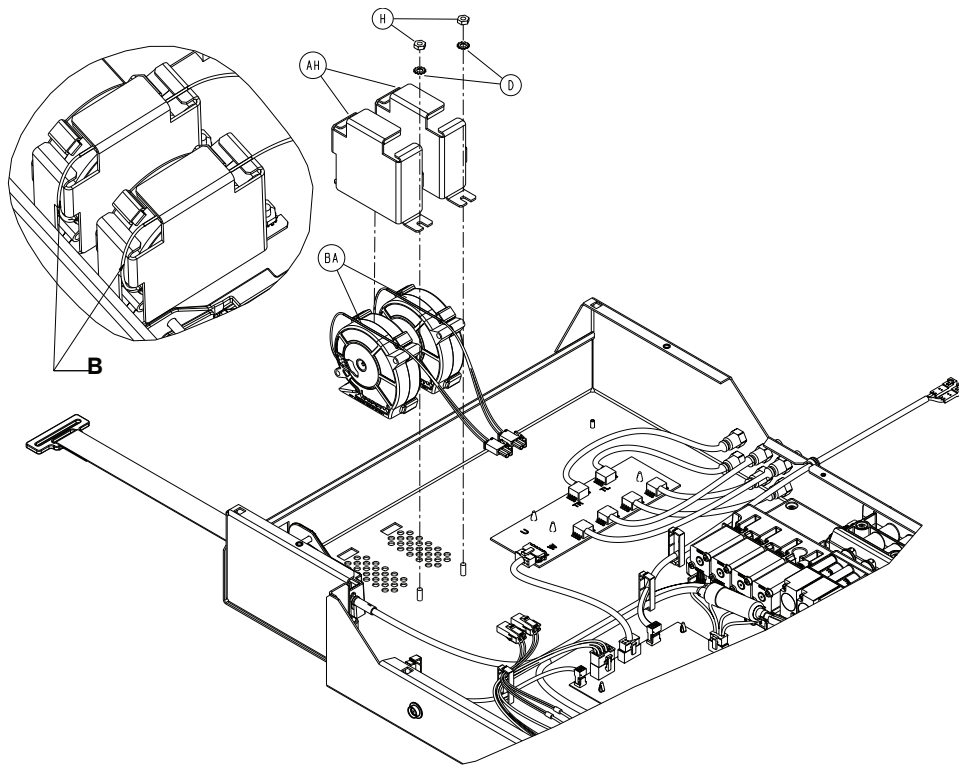

Figure 22 – Cooling fan and cage
3. Using a 5/16" nut driver, remove the nut (H) that secures the fan cage to the foot box. Save the nut (H) and the washer (D) (Figure 22).
4. Remove the cooling fan (BA) (Figure 22) from the fan cage (AH). Discard the cooling fan.
Note - During reinstall, route the fan power cables (BA) over the top of the supplied fan (B) and under the foam tape (Figure 22).